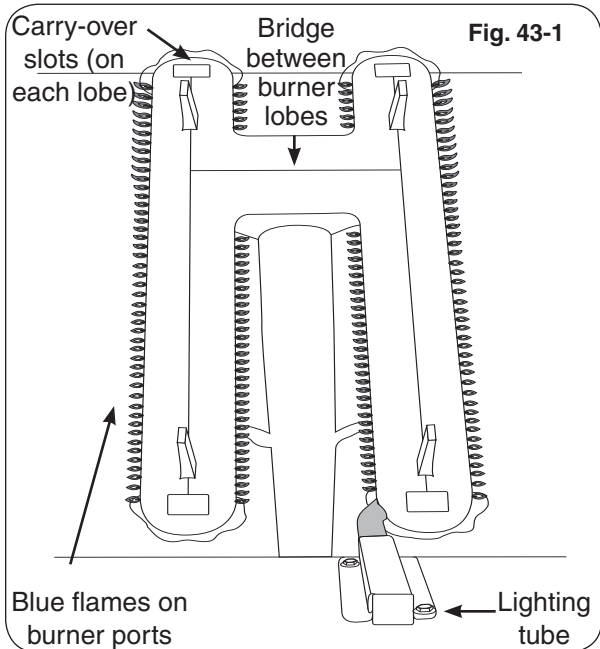

Fig. 43-1
Flames from a properly adjusted main burner with no wind or breeze present will appear fairly steady, consistent, and mostly blue. If the tip of a flame were to turn orange, it should only do so briefly and then become blue again. The flames will appear to burn while touching the burner ports (see Figure 43-1).
6. Repeat steps 1-4 until the flames appear to touch the burner ports, burning fairly steadily and mostly blue (see Fig. 43-1).